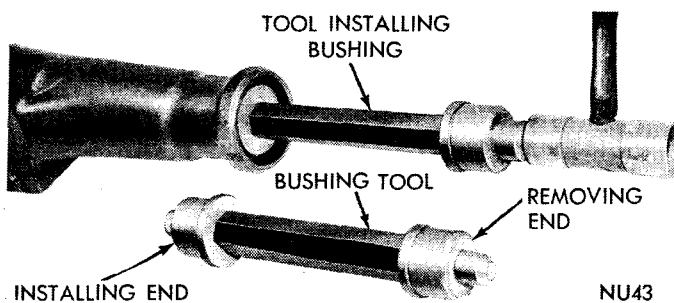

Fig. 30—Replacing Bushing in Extension Housing
(1) Remove extension housing yoke seal with Tool C-3985 or with Tool C-3996 for small yoke extension.
(2) Drive the bushing out of housing (Fig. 30) with Tool C-3974.
(3) Slide a new bushing on installing end of Tool C-3974. Align oil hole in bushing with oil slot in housing, then drive bushing into place (Fig. 30).
(4) To install a new seal, position seal in opening of